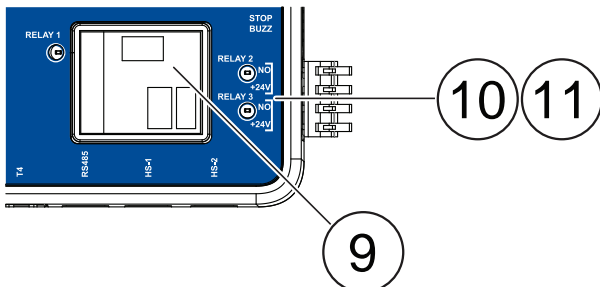

Figure 53. Relay Ports
- Relay capacity: (1) Mechanical 20A max at 240VAC (Figure 53 Item 9). (2) Solid state relays 30VDC, 2A max (Figure 53 Item 10, 11).
3. Install the relay wires in the appropriate relay port: mechanical (Relay 1) or solid state (Relay 2 and 3) (Figure 53).